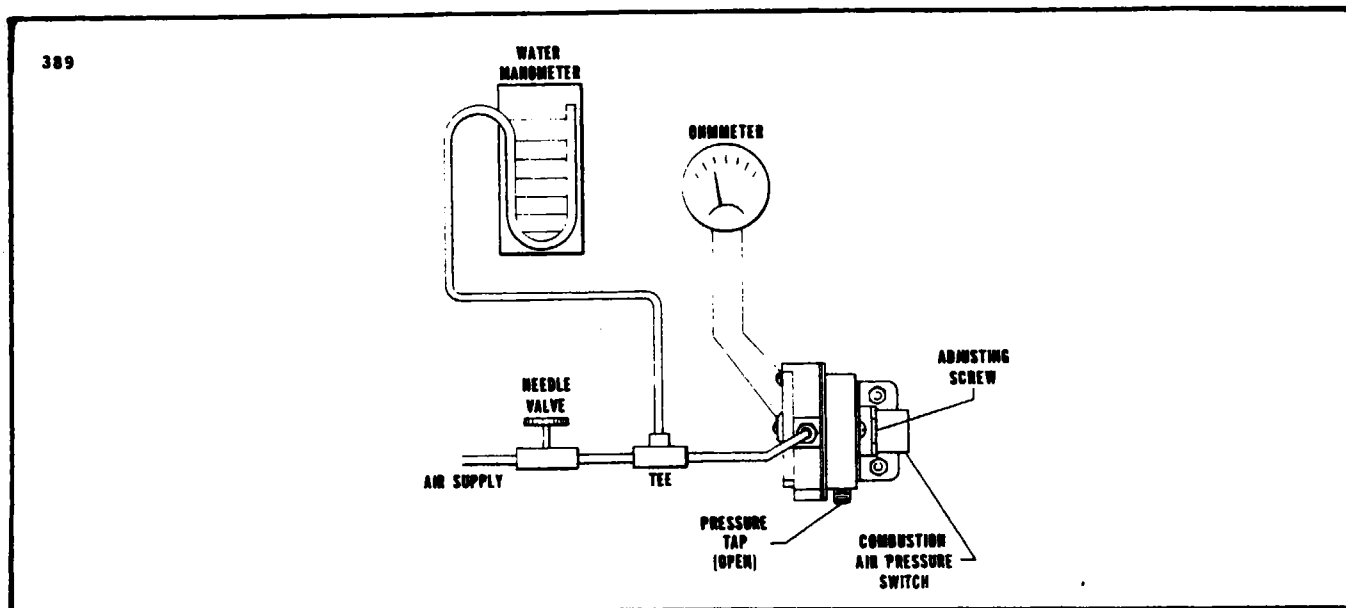

Figure 13-26. Test Setup for Combustion Air Blower Switch
1. Connect an adjustable air pressure line that can be controlled in a range of zero to 10.0 inches (maximum) of water to the switch opening with a water manometer and needle valve in the line ahead of the switch. Switch must be tested in the same position as installed in the airplane. (Refer to Figure 13-26.)